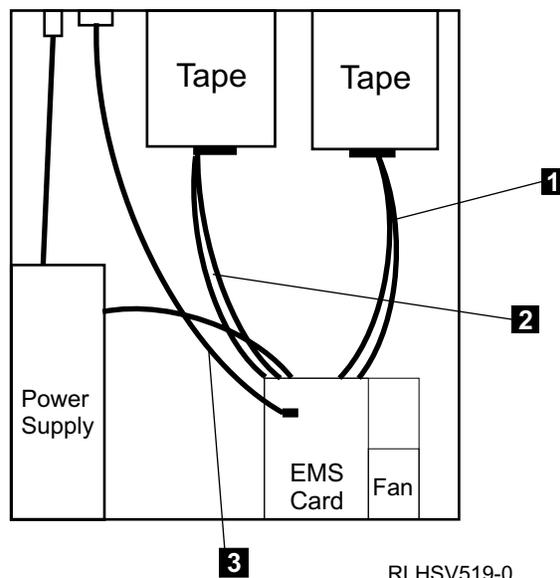

Figure 15. Removing and Replacing the Internal SAS Cables
2. Disconnect the VPD cable **3** in Figure 15 on page 32 from the ESM card.
- b. The SAS internal cables **1** and **2** in Figure 15 are a single cable with an integrated SAS and power connector at the tape drive and separate SAS and power connectors at the ESM card.